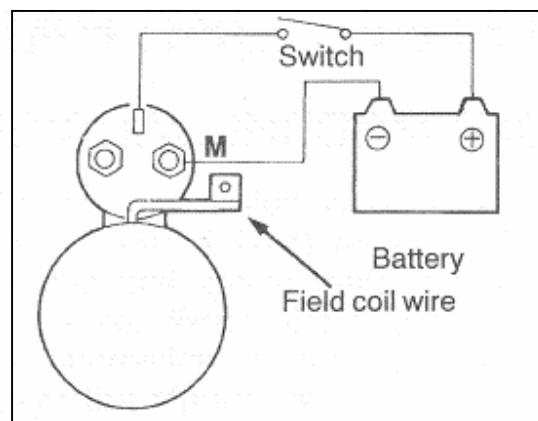

Fig. 9-9
5) **Magnetic switch return test** (see Fig.9-9)